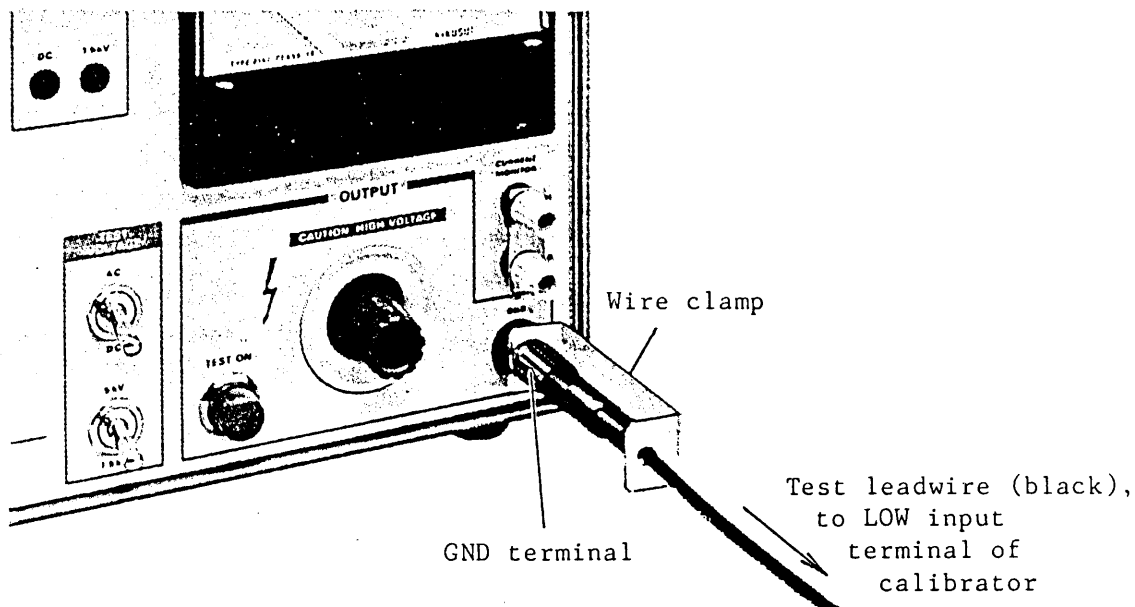

Figure 3.1
- (1) Make sure that the GND terminal of the withstanding voltage tester to be calibrated is securely connected to an earth line. If this grounding is imperfect, the calibrator may be charged up to high voltage when the output is shorted to the ground line or the power line, and electric shock hazards can result.
- (2) The connection method of the test leadwires of the GND side is shown in Figure 3.1. Make sure that the GND leadwires has no discontinuity. Unless the leadwires is securely connected, the calibrator can be charged up to the high voltage.
First, connect the GND terminals with the black test leadwire as shown in Figure 3.1. Securely fix the wire clamp with the GND terminal knob. Next, connect the HOT line terminals with the red test leadwire. Securely fix the leadwire to the HOT line terminal of the calibrator with the plastic screw which accompanies the calibrator.